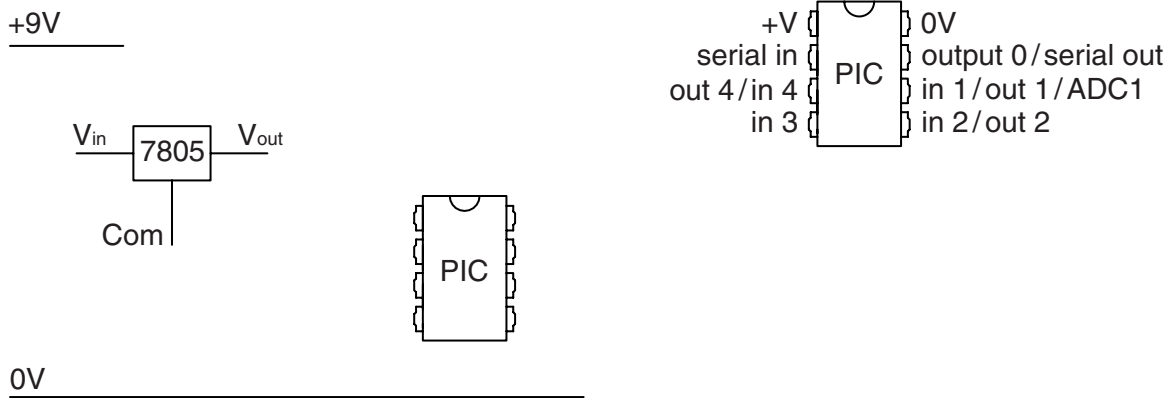

Fig. 8 [4]
- (ii) Complete the circuit diagram in Fig. 8 by adding connections to the 7805 voltage regulator and power connections to the PIC IC.